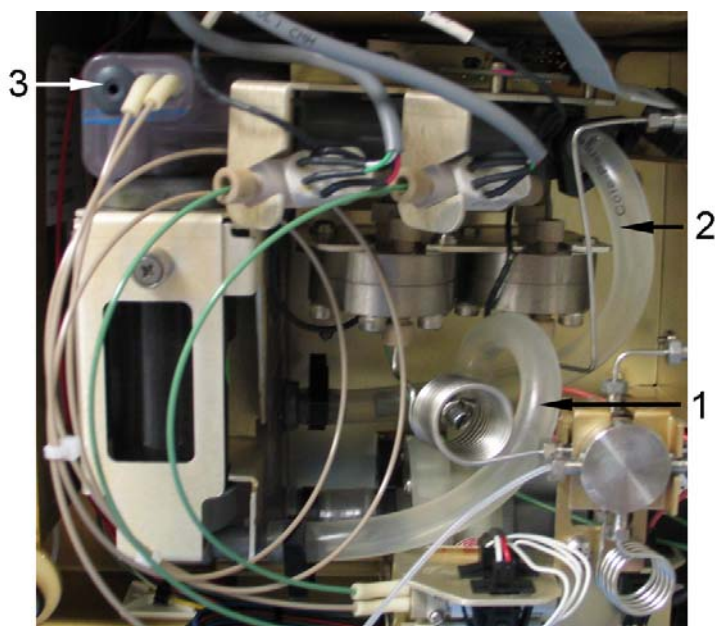

Figure 42: The DI Water Loop
2. Remove the Lower tube (Item 1 in Figure 42) from the bottom of the resin bed. Place the tube into a bottle or tray, as water will drain from this tube.
3. Remove the inlet cover on the DI water reservoir (Item 3 in Figure 42). Water will drain from the tube when you remove the inlet cover.